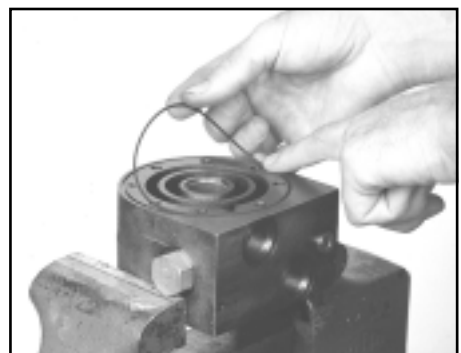

Figure A02
5. Place the o-ring (3) in center block seal gland. SEE FIGURE A02